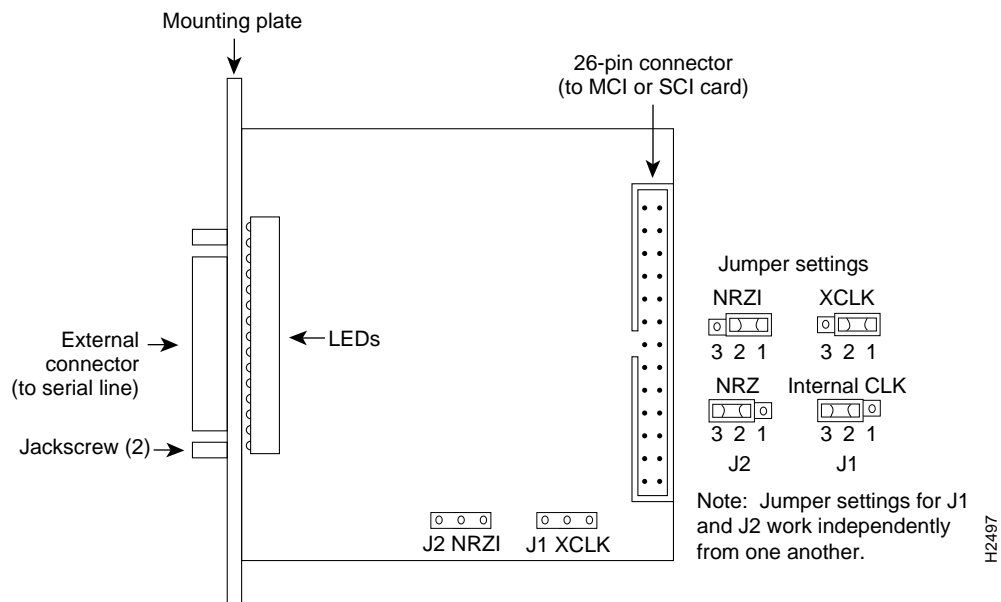

Figure A-6 HD V.35 NRZI Applique—Component Side
- To select NRZI mode, move jumper J2 to pins 1 and 2. The default is NRZ mode, with jumper J2 on pins 2 and 3. (Refer to Figure A-6.)